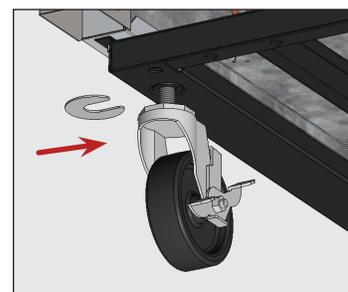

Fig. 9. Insert the castor shim(s), be sure to tighten the castor stem.
5. If the unit is not level, on the low end of the appliance, loosen the castor bolt enough to slide provided castor shims between the castor bearing and the bottom rail of the appliance. See fig. 9.
6. Install the desired number of shims. See fig. 9.